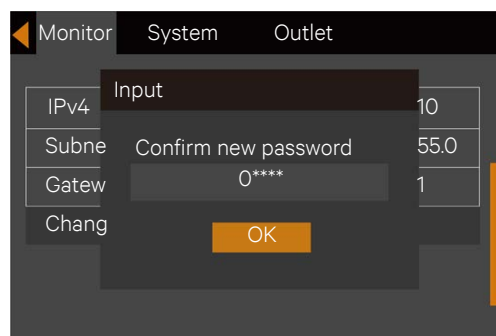

Figure 5-24 Confirming new password
5. After entering the new password, press the **Enter** key to confirm it, at this point the system requests the user to confirm the new password by entering it again. See Figure 5-24.